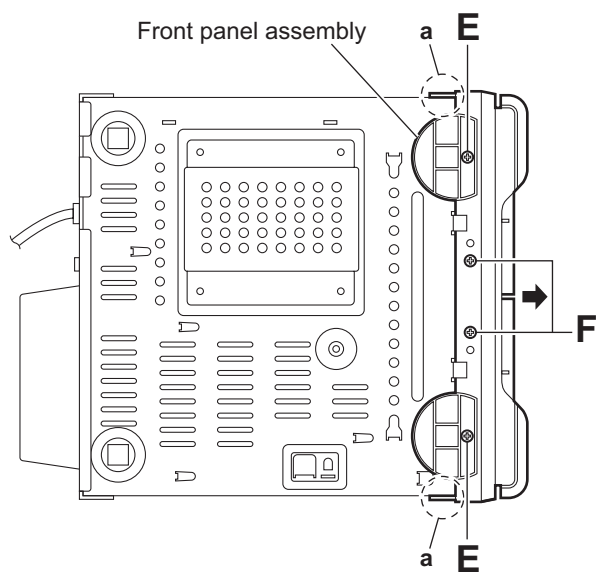

Fig.7
(9) From the bottom side of the main body, remove the two screws **E** and two screws **F** attaching the front panel assembly. (See Fig.7.)
(10) Release the claws **a**, remove the front panel assembly from the main body in the direction of the arrow. (See Fig.7.)